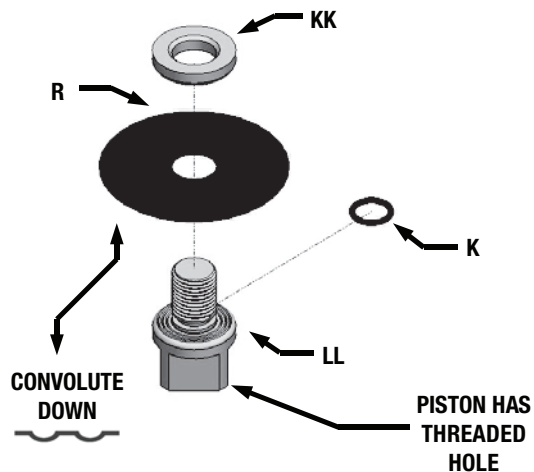

Figure 35
- C. Slide a -012 O-Ring (K) onto the Small Piston (LL). Place a Convolute Diaphragm (R) onto the Small Piston (LL) using the orientation shown in Figure 35. Slide a Small Washer (KK), onto the Small Piston (LL).